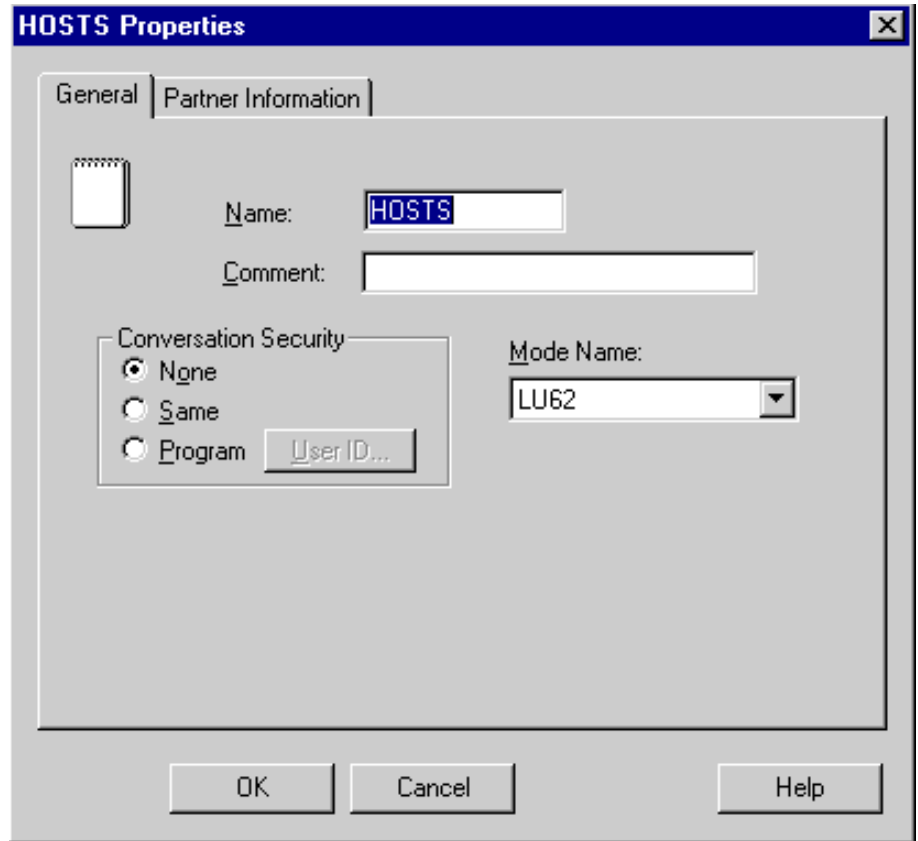

Figure 62. Configuring CPIC properties: general page for HOSTS
- 8 On the General page, enter **HOSTS** in the Name field, as the CPI-C Symbolic Destination Name, as shown in Figure 62.